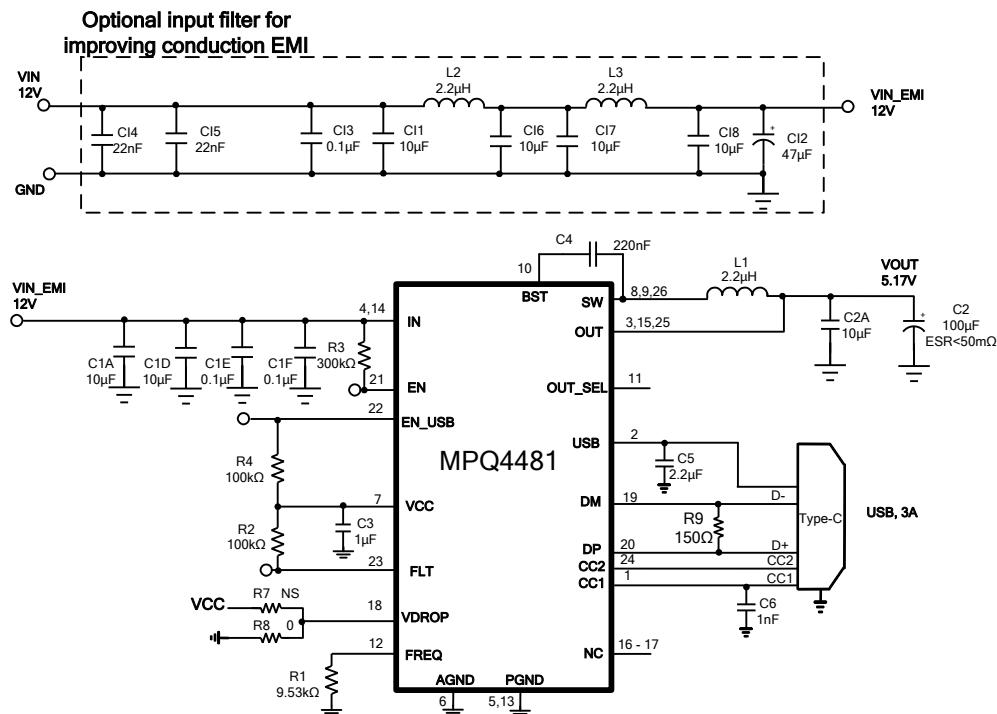

Figure 12: USB Type-C 5V/3A DFP Port ⁽¹⁰⁾
9) The recommended layout is based on the Typical Application Circuits in Figure 12 and Figure 13.